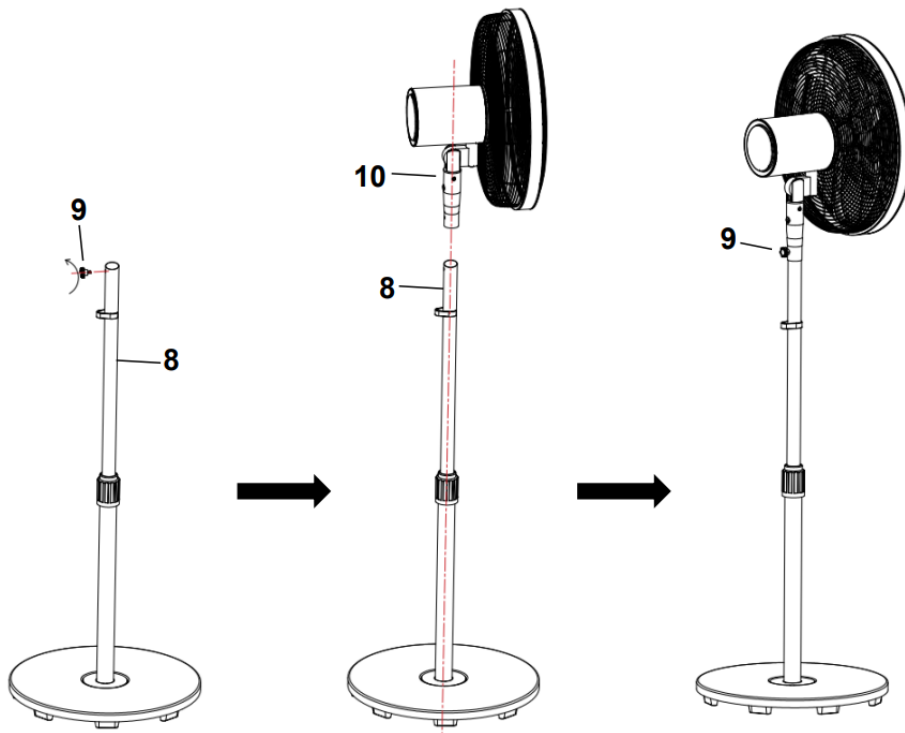

Fig. 5
- Loosen the fixed knob (9) from the height adjustment pipe (8), place the fan head assembly (10) onto the top of the height adjustment pipe (8). Secure it by tightening the fixed knob (9). Fig. 5